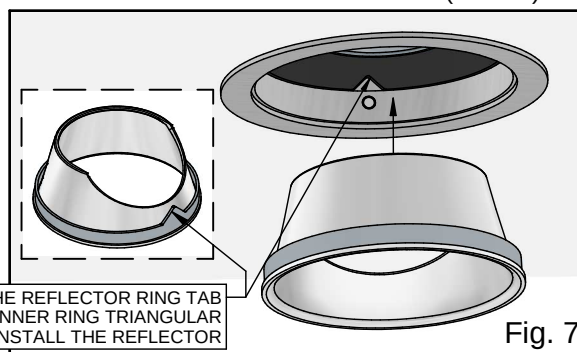

Fig. 7
9. Once the fixture has been adjusted properly, re-install the lower trim by aligning the reflector ring tab with the fixture inner ring triangular notch (shown in Fig. 7). With these features aligned, insert the reflector to the fixture so that the lower flange surface on the reflector is flush with the trim flange. (NOTE: The lower trim is held in place with magnets. When installing the lower trim, the magnets should help pull the reflector up into the fixture.)